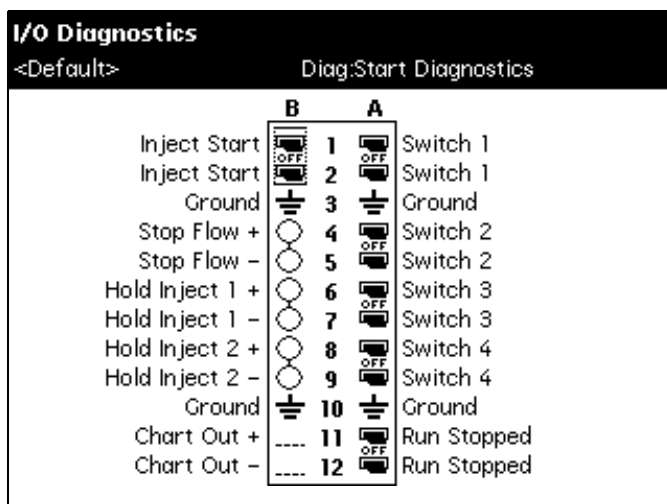

Figure 8-9 I/O Diagnostics Screen
1. Select **Inputs and outputs** in the Other Diagnostics drop-down list, then press **OK**. The I/O Diagnostics screen appears (Figure 8-9).